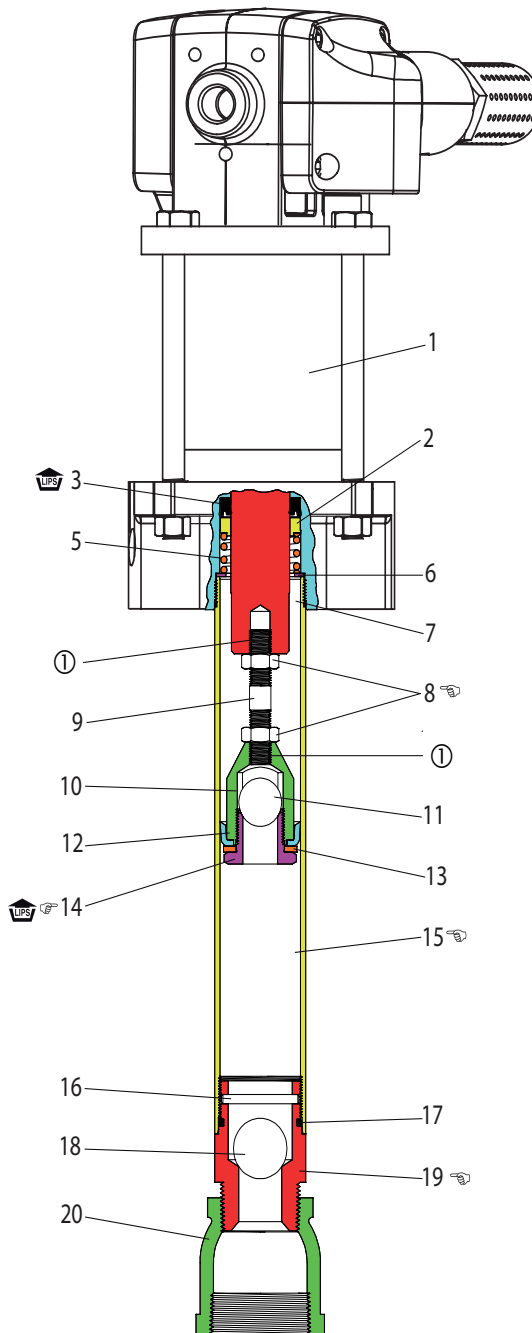

Figure 3
- For AF0409A43XXXX and AF0409A45XXXX: Using e-ring pliers, slide the retaining ring up far enough to allow the sleeve to move upward and release the two connectors. **NOTE:** Refer to figure 3, page 4.
- Remove (3) seal (2) spacer, (5) spring and (6) washer from cavity in bottom of motor.
- Assemble (3) seal, (2) spacer, (5) spring and (6) washer into cavity in bottom of motor. **NOTE:** Refer to figure 3, page 4 for packing lip direction.
- Apply Loctite 242 to threads of piston rod before assembly. **NOTE:** Tighten nut to 60 - 70 ft lbs (81.3 - 94.9 Nm). **NOTE:** refer to figure 3, page 4.
- For AF0409A43XXXX and AF0409A45XXXX: Install the two connectors and retain with the sleeve, slide the retaining ring back into position. **NOTE:** Refer to figure 3, page 4.